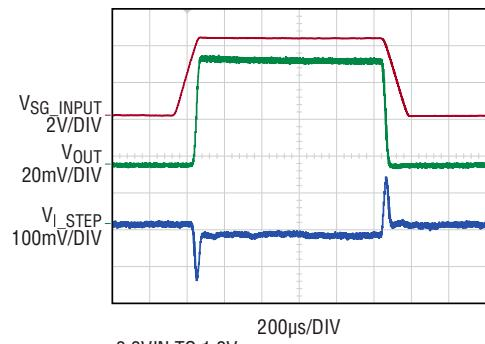

Figure 3. DC2874A-A 4-Phase Load Transient Response
7. Measure the I_{STEP} voltage to observe the current, $V_{I_STEP}/10m\Omega$. Adjust the amplitude of the pulse to provide the desired transient. Adjust the rising and falling edge of the pulse to provide the desired ramp rate. Figure 3 shows a load step from 8A ($RL = 150m\Omega$) to 36A. Refer to the following equations: